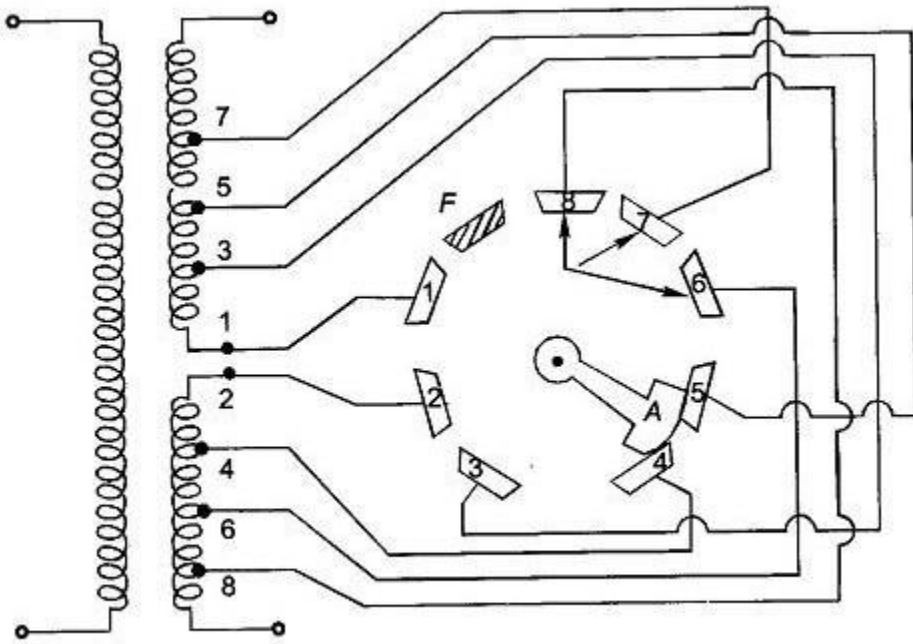

Fig. 3.68 No-load tap changer
This is one of the very cheapest & useful method. In this method, the tap changing is done by disconnecting the load from the transformer. The simple off load tap changer transformer is shown in the fig 3.68 below. It has 8 studs marked 1 to 8. The winding is also tapped at eight points & connected with these studs. The movable contact arm (A) may be rotated by means of hand wheel mounted externally on the transformer tank. So according to the tapping position, we can get the output voltage.